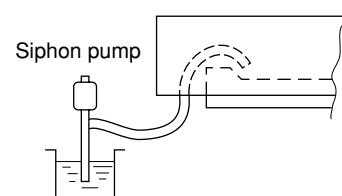

Fig. 3-31
- (3) Pour water into the drain pan using a siphon pump through the air outlet grille. (Fig. 3-31) Check the water flow through the transparent drain pipe and see if there is any leakage.